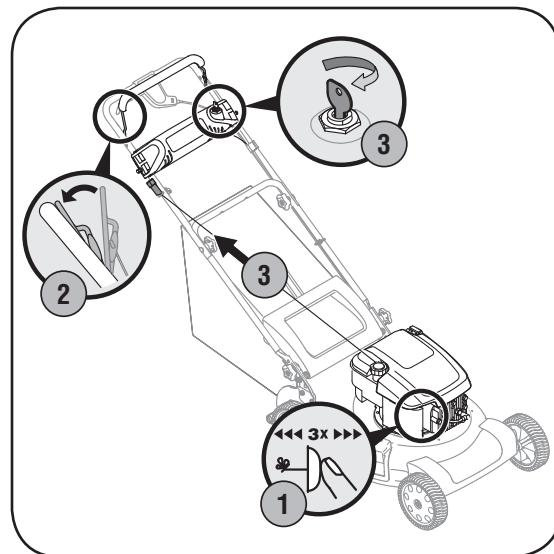

Figure 4-2: Starting the mower.
1. Push primer three times. Wait about two seconds between each push, Figure 4-2. In temperature around 55°F or below, prime five times. Do not prime to restart a warm engine.
2. Standing behind the mower, squeeze the blade control against upper handle, Figure 4-2.
3. **Recoil Start:** Grasp recoil starter handle and pull rope out with a rapid, continuous, full arm stroke, Figure 4-2. Keeping a firm grip on the starter handle, let the rope rewind slowly. Repeat until engine cranks. Let the rope rewind each time slowly.
**Electric Start:** Turn ignition key to the right to start the engine, Figure 4-2. Release the key after the engine starts.